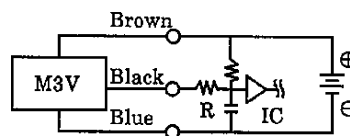

Fig. 4 An example of using capacious load together with current limiting resistance R. Comply with the following formula to figure out required R.
- With a capacious load (capacitor), rush current occurs when the switch is turned on. Be sure to install a protect circuit shown in Fig. 4.